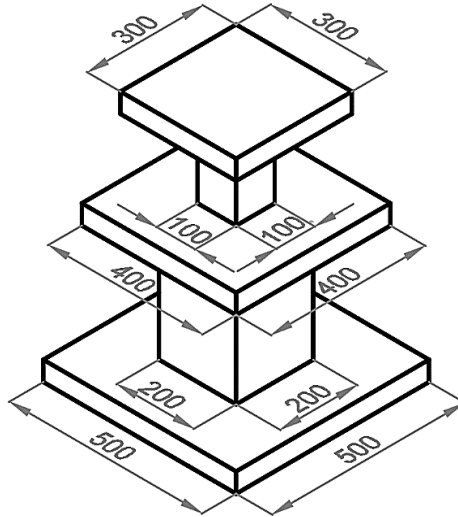

Figure 1
13. Figure 1 shows a 3D design of a shop display for a new line of eyeglasses from a famous designer brand.
a. Underline the 3D pictorial projection technique that was used to draw Figure 1.
b. Underline **ONE** of the following statements which best describes the 3D pictorial projection technique used in Figure 1:
- d. Figure 2 shows an incomplete orthographic projection of the shop display in Figure 1. On Figure 2, complete the Plan and add overall dimensions.
14. The shop display shown in Figure 1 is made of manufactured wood.